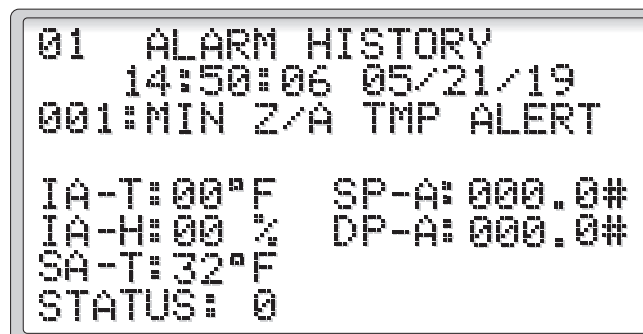

Figure 75
3.18 Alarm History Screen (Figure 75)